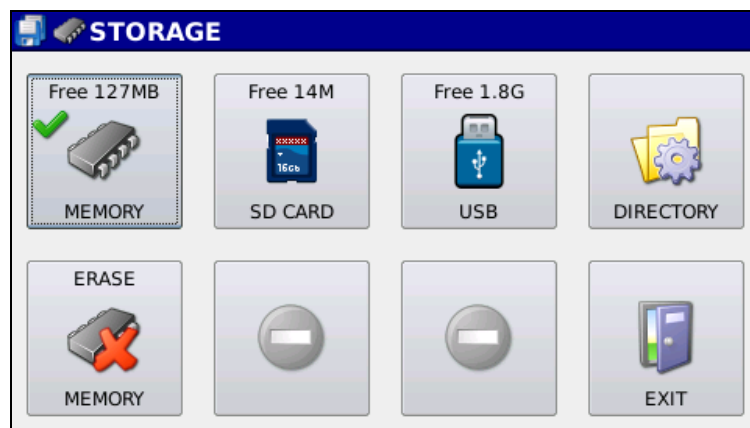

Fig 4.2: STORAGE window with internal memory selected for measurements storage
4.1 Press STORAGE to access the device manager window (Fig. 4.2) for selection of the storage device.